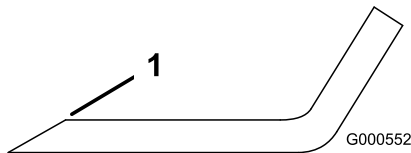

Figure 47
Note: If the blade is not balanced, file some metal off the end of the sail area only (Figure 47).
1. Use a file to sharpen the cutting edge at both ends of the blade (Figure 47).